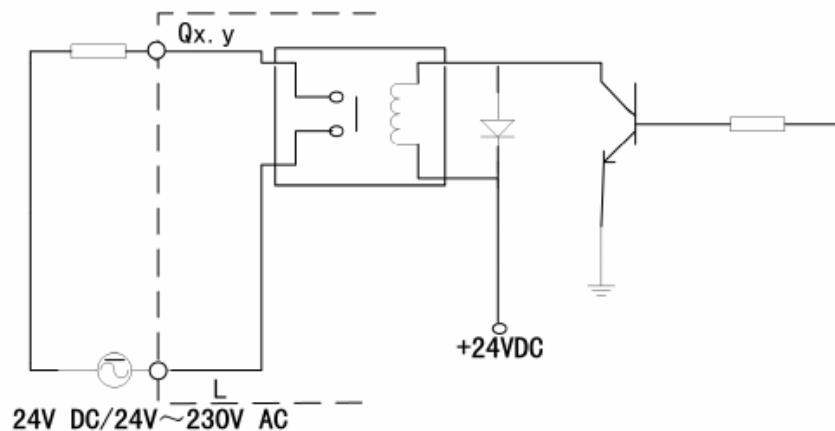

Figure 2.3.2 LM3105 Output Channel Equivalent Circuit
- ◊ LM3105 output channel (DO) equivalent circuit shown in Figure 2.3.2.